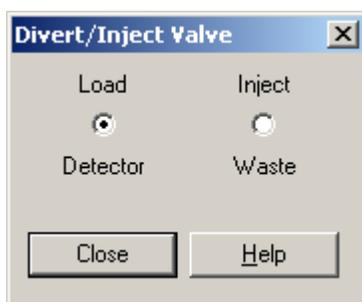

Figure 68. Divert/Inject Valve dialog box
- a. Click **Divert/Inject Valve** to display the Divert/Inject Valve dialog box. See Figure 68.